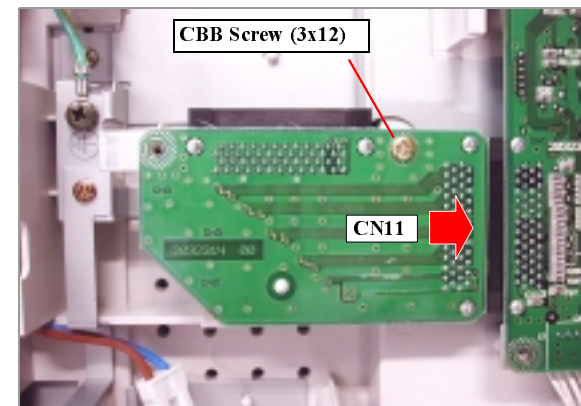

Figure 4-9. B109 SUB-B Board Removal
2. Remove the one screw (CBS, 3x12), and then remove the B109 SUB-B Board from CN11 of the B109 MAIN Board. (See Figure 4-9.)